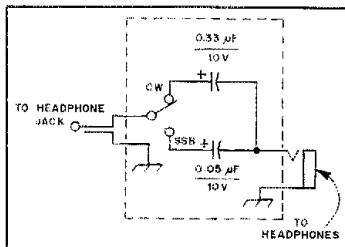

Fig. 3 — This simple circuit can be used to tailor the audio-response characteristics of your receiver.
□ I was never really satisfied with the sound of the audio from my Kenwood TS-520, especially while using the wide cw position. Fig. 3 shows a circuit that I built into a surplus headset-adaptor box (model MC-385-C), which I picked up for 75 cents at a flea market. A small aluminum box will work just as well.